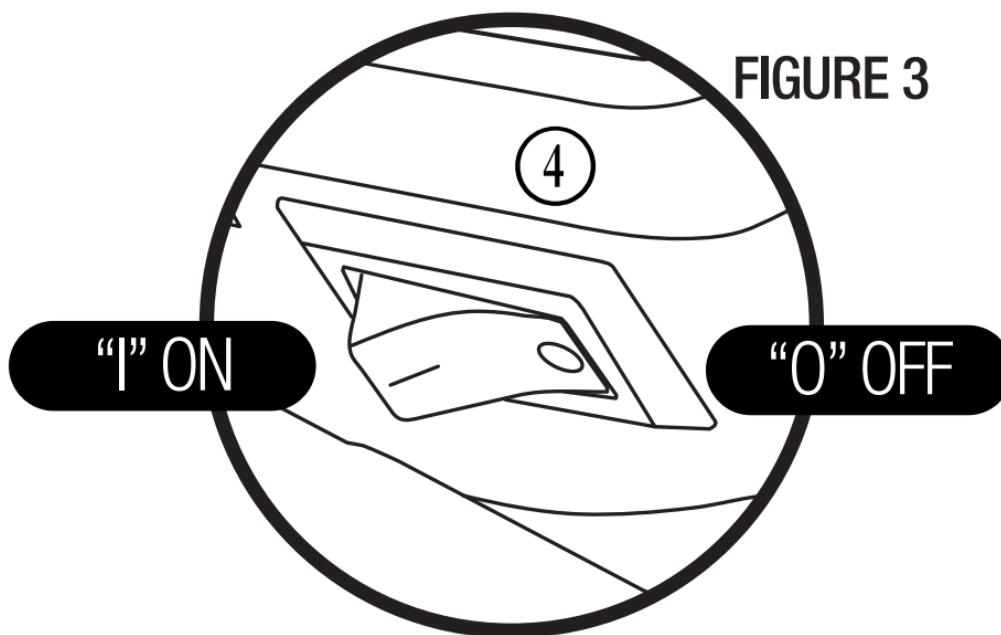

FIGURE 3
- Before connecting the Router Motor to the power source make sure the Power Switch (D) is in the "0" off position. **FIGURE 3.**